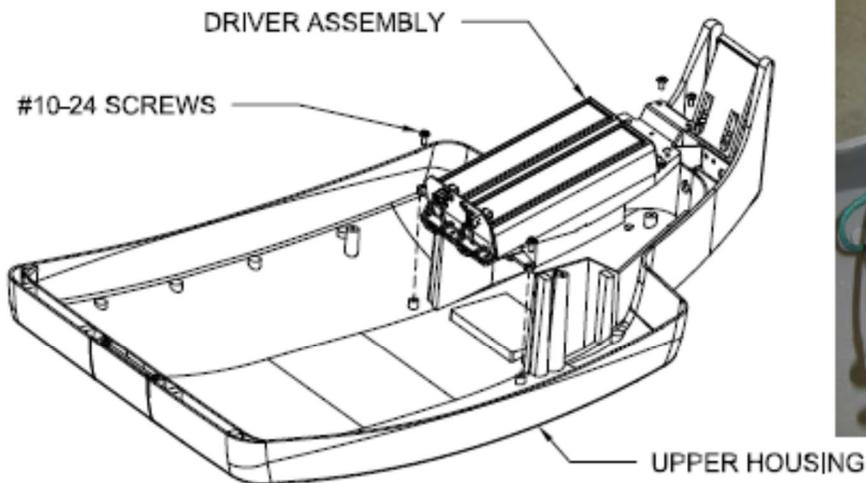

FIGURE 5
5. INSTALL DRIVER ASSEMBLY WITH NEW #10-24 SCREWS. INSTALL DRIVER ASSEMBLY BY MATING THE HEAT SINK TO THE TOP OF HOUSING, ALIGN THE FRONT TWO BOSSES WITH THE EXISTING HOUSING BOSSES AND ALIGN THE BACK OF THE HEAT SINK HOLES WITH PREVIOUSLY USED BALLAST ASSEMBLY HINGE BRACKET HOLES. MAKE SURE #10-24 SCREWS ARE FULLY ENGAGED AND HEAT SINK IS IN CONTACT WITH UPPER HOUSING. SEE FIGURE 5 BELOW.